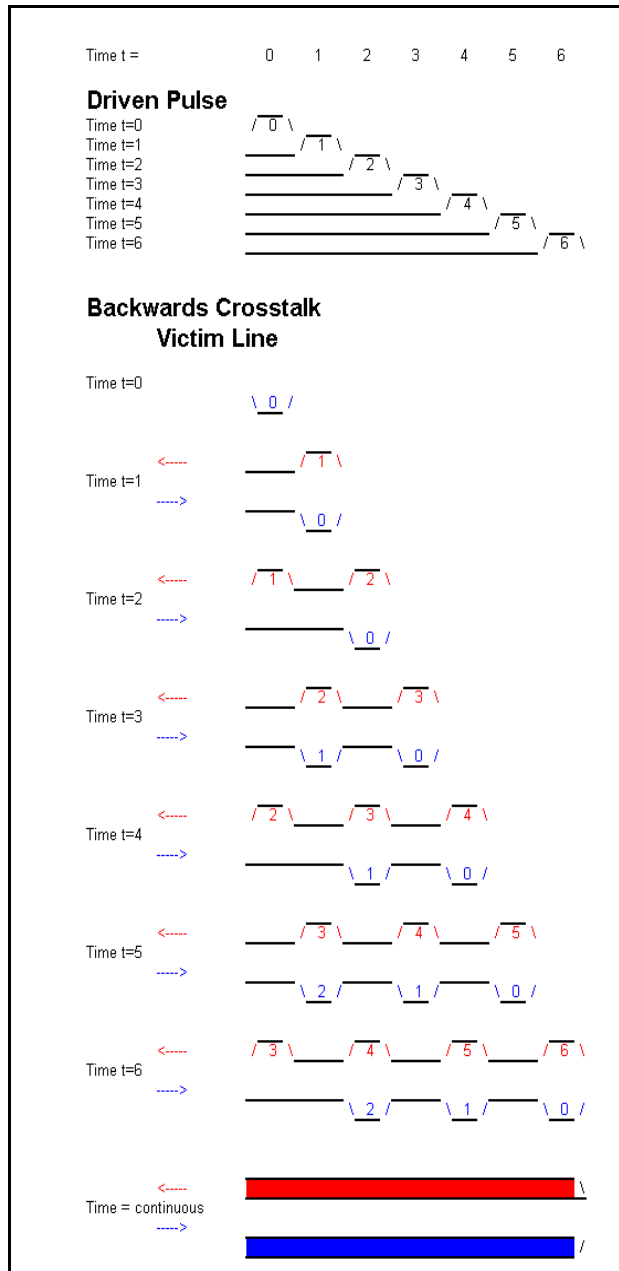

Figure 2: Backwards crosstalk as the driven signal propagates down the trace.
**Figure 2** helps us understand why the reverse crosstalk waveform tends to be longer than the driven pulse. Consider a simple signal as it travels down a trace. We will take a "snapshot" of it at seven points in time, labeled t=0 through t=6. In order to simplify the analysis, we will assume the signal is a pulse with zero width, even though in Figure 2 it is shown with a finite width.